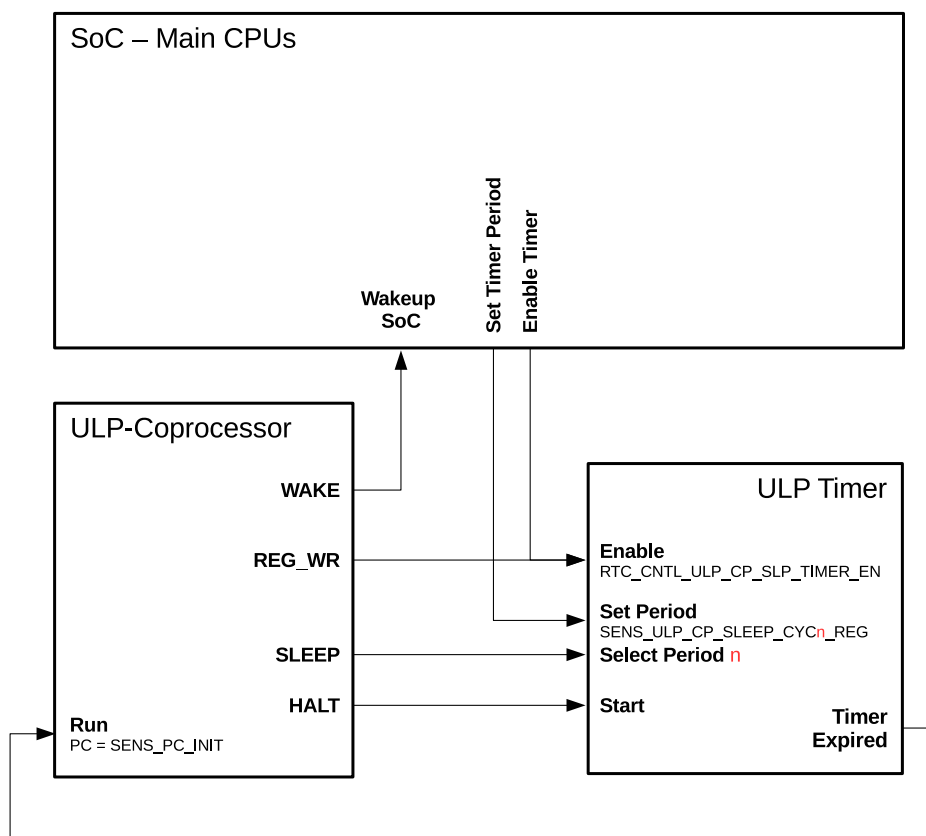

Figure 147: Control of ULP Program Execution
The ULP co-processor puts itself into sleep mode by executing the HALT instruction. This also triggers the ULP timer to start counting `RTC_SLOW_CLK` ticks which, by default, originate from an internal 150 kHz RC oscillator. Once the timer expires, the ULP co-processor is powered up and runs a program with the program counter (PC) which is stored in register `SENS_PC_INIT`. The relationship between the described signals and registers is shown in Figure 147.